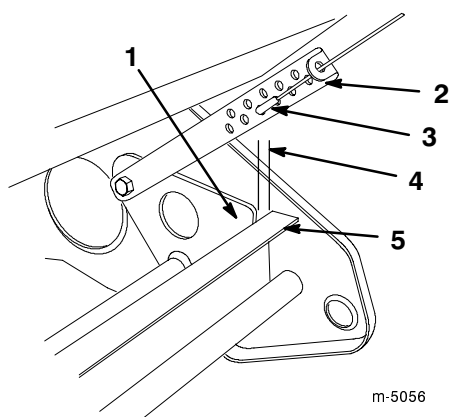

Figure 13
4. Ensure that the distance between the pivot plate and the wheel frame is 0 to 1/8 in. (0 to 3 mm) as shown in Figure 13.
Unhook the Z-fitting from the pivot cable adjuster (Fig. 13), and position the Z-fitting in a different hole on the pivot cable adjuster to obtain the proper gap between the pivot plate and the wheel frame.